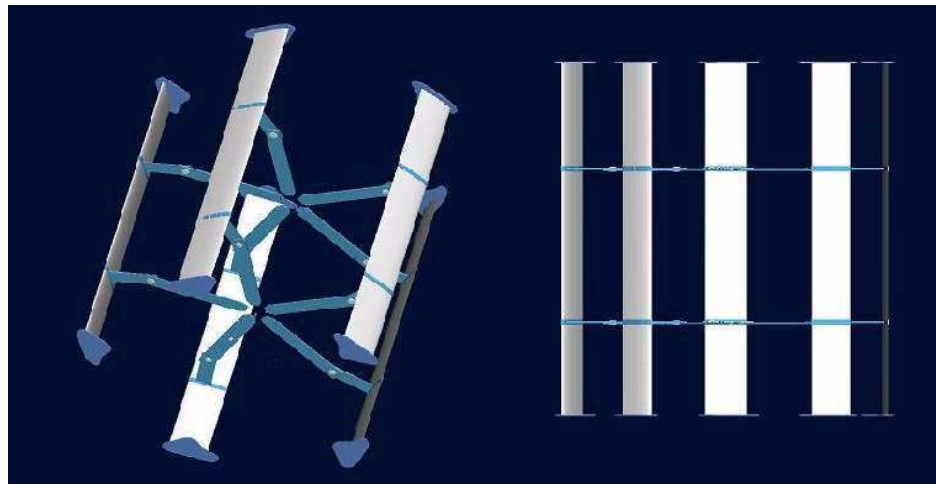

Fig 5
Step 4: Connect the long and short retaining arms to the upper and lower flanges with round nuts. Then install airfoils (blades) to the retaining arms and fasten with bolts and nuts. Next, install the stabilizer airfoil to the blades and fasten with bolts, gaskets, and spring gaskets. Lastly, silicon the airfoil and stabilizer airfoil on each end with structural silicone for fibreglass. Please refer to Figure 5.